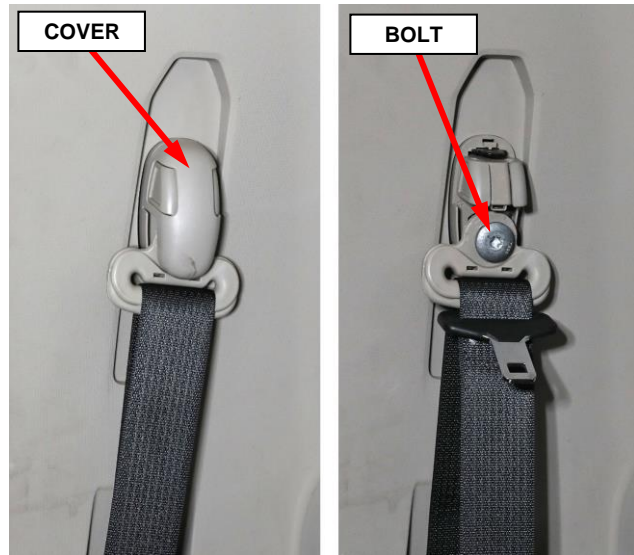

Figure 40 – Seat Belt Turning Loop
8. On the B-pillar, separate the seatbelt turning loop cover then remove the turning loop bolt (Figure 40).
50. Using a **NEW** bolt and reusing the spacer washer, install the turning loop then tighten the bolt to 40 N·m (30 ft. lbs.) (Figure 40).
51. Install the seat belt turning loop cover (Figure 40).